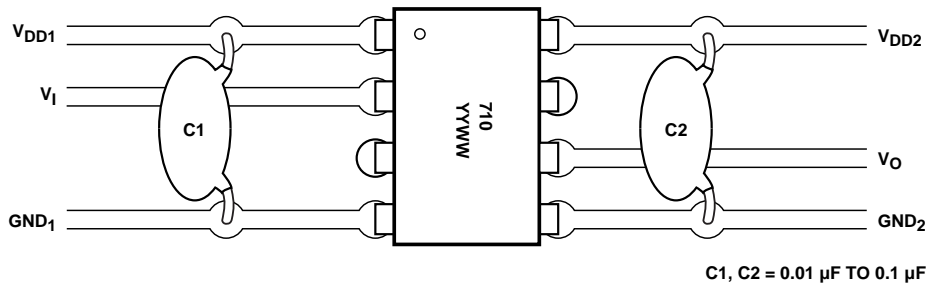

Figure 12. Recommended Printed Circuit Board Layout.
0.1 μF . For each capacitor, the total lead length between both ends of the capacitor and the power-supply pins should not exceed 20 mm. Figure 12 illustrates the recommended printed circuit board layout for the HPCL-0710.